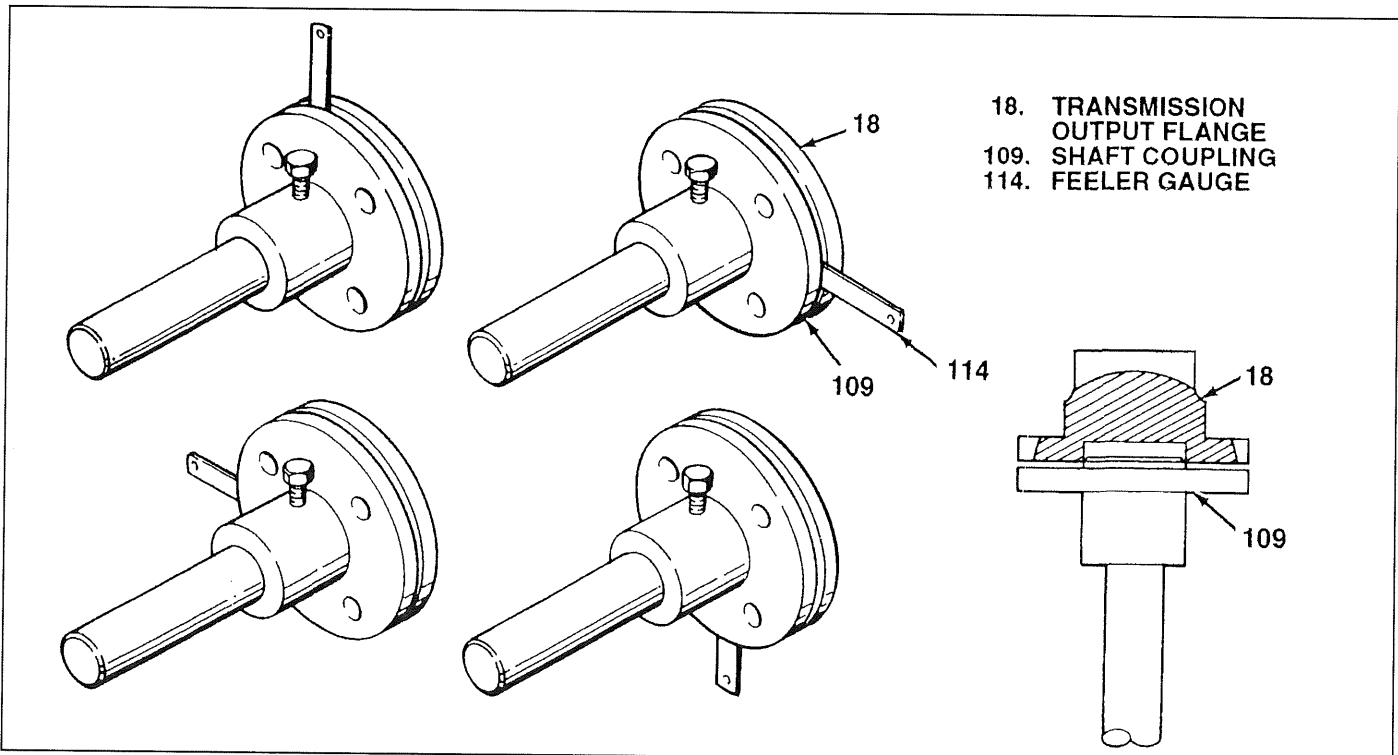

Figure 2-4: Propeller Shaft Alignment
2-16 PROPELLER SHAFT ALIGNMENT CHECK (see figure 2-4). The propeller shaft alignment must be checked whenever any of the following has taken place:
1. With boat in water, remove coupling nuts and bolts and slowly separate shaft coupling (109) from transmission output flange (18). As coupling leaves flange locating boss, check that there is no sudden radial (side to side or up or down) movement. Check that no side loading is required to remate the coupling with the flange boss.
2. With coupling (109) in flange (18) locating boss, draw flanges together using hand pressure only. Using suitable feeler gauge (114), check the clearances between the flanges at four locations, 90 degrees apart. (see figure 2-4) Clearance measurements must not vary from each other by more than 0.003 in. (.076 MM).